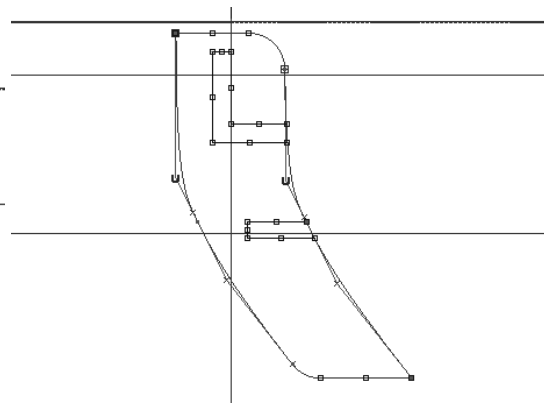

Figure 7-86 Profile after adding fillet curves
14. Similarly, create the fillet curve between the line at the bottom of profile and the original curve. The profile after adding fillet curves is displayed, as shown in Figure 7-86.